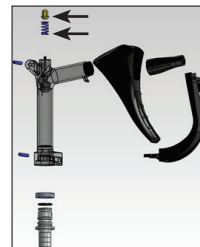

Figure 9
7. Remove the dome nut and valve assembly spring (Figure 9).